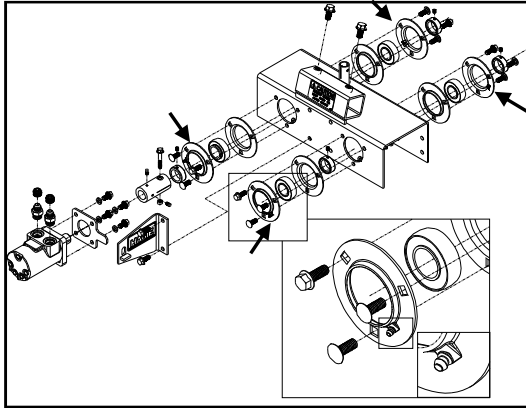

FIG 123-2
**QUAD PULLERS-** Each quad puller head has four bearings equipped with grease zerks (fig. 123-2). To ensure the longest life and best performance, grease each bearing twice a day: suggested times are morning and noon.